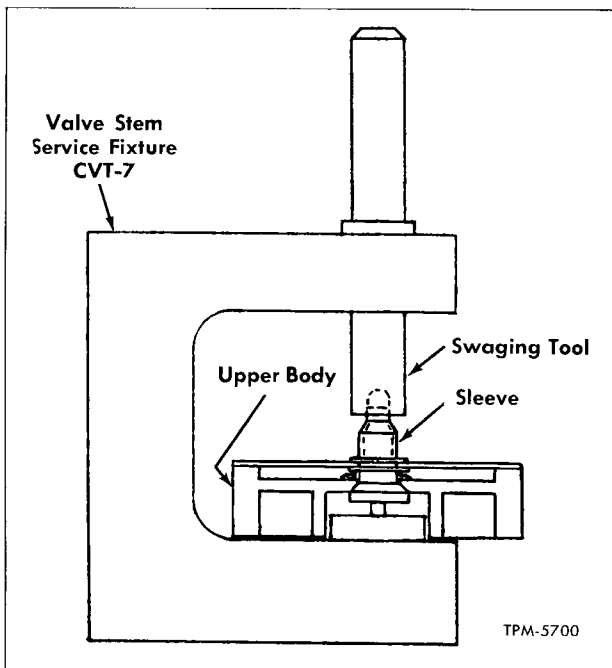

Figure 10—Installing Valve Stem Sleeve
1. Remove any excess rubber from new stem. Install stem in cover side of upper body (5). Place spring over stem, with large diameter against upper body (5). Install brass washer, diaphragm (7), and other brass washer on stem. Install sleeve, large end first, over end of stem and swage as follows:
a. Hold assembly together and carefully position large end of stem on anvil of valve stem service fixture CVT-7 as shown in figure 10.
b. Place swaging tool over small end of stem and sleeve. Lift edge of diaphragm (7) and check position of spring. Edge of spring should not prevent parts from fitting together squarely on stem.